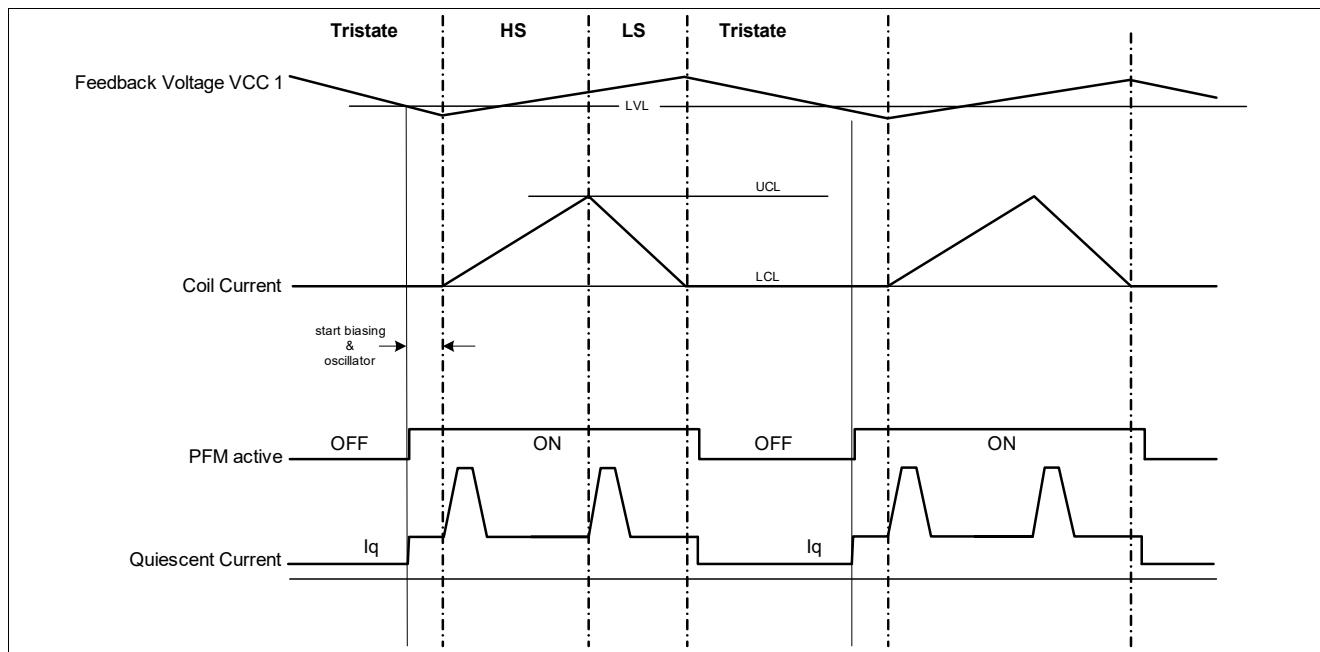

Figure 14 Typical PFM timing diagram
- PFM Mode (Pulse Frequency Modulation): This mode is activated automatically when the SBC Stop Mode is entered. The PFM Mode is an asynchronous mode. PFM Mode does not have a controller switching frequency. The switching frequency depends on conditions of the Buck regulator such as the following: input supply voltage, output voltage, output current and external components. A typical timing diagram is shown in **Figure 14**. The Buck converter in PFM Mode has a tolerance of $\pm 4\%$. The transition from PFM mode to PWM mode is described in **Chapter 6.2.2**.